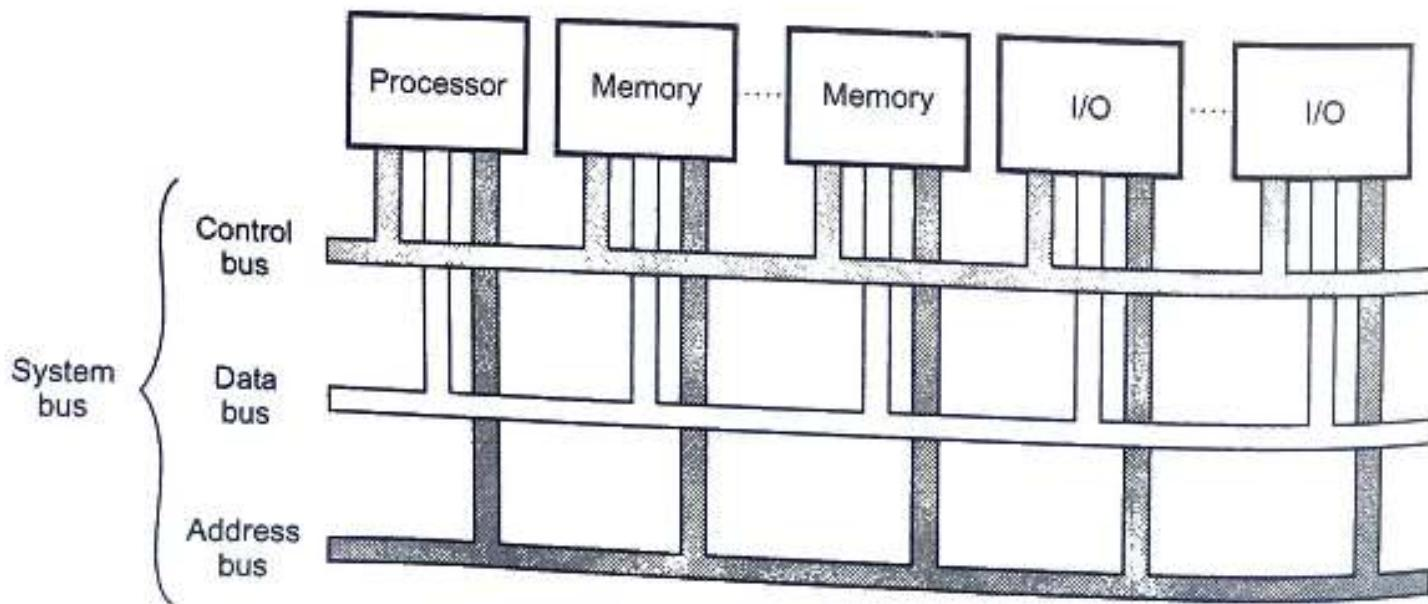

Fig. 1.4.1 Bus interconnection scheme
- Fig. 1.4.1 shows bus interconnection scheme.